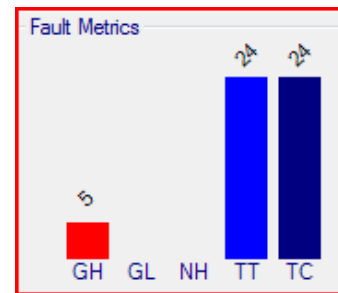

Fig. 30. Data Dashboard – Fault Metrics
The Fault Metrics chart (Fig. 30) shows the number of gamma high (GH), gamma low (GL), neutron high (NH), tamper open (TT), and tamper close (TC) faults experienced by the RPM over the date range selected. Ideally, all will be zero.